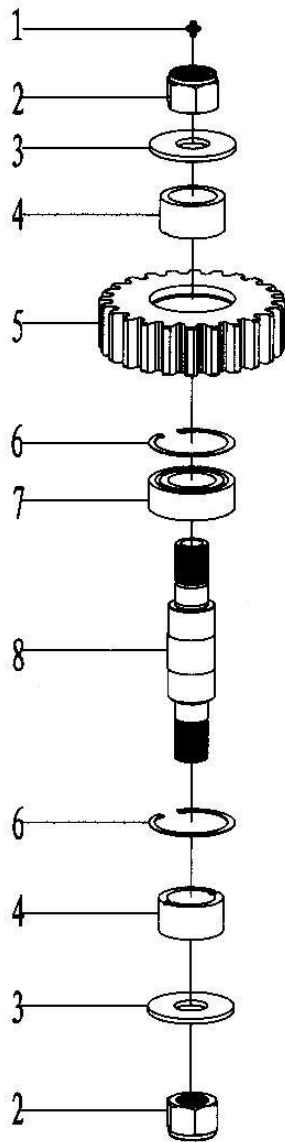

Fig 5
7.5 Assembly of small idle gear (Fig 5, Table 5)